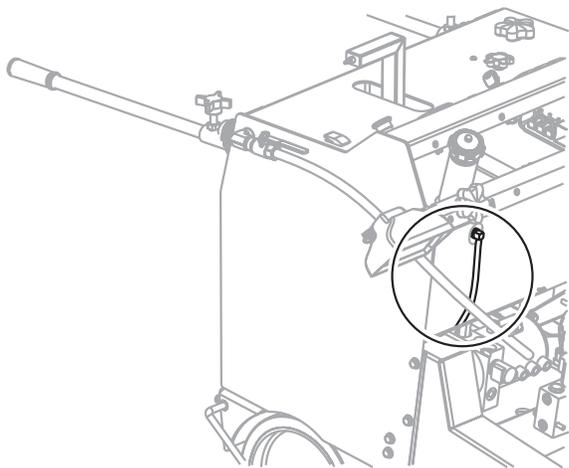

Figure 24. Fuel Gauge
1. Determine if the engine fuel is low. (Figure 24)